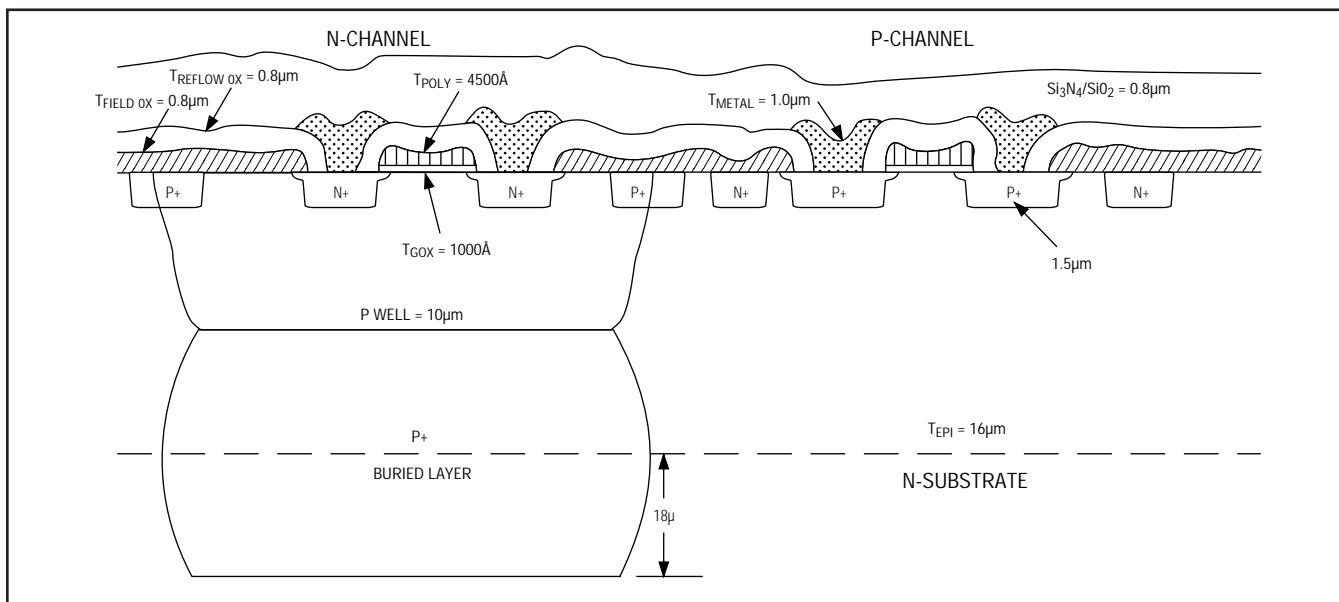

Figure 3. MV2 Process
### (3) MV2 (Refer to Figure 3)